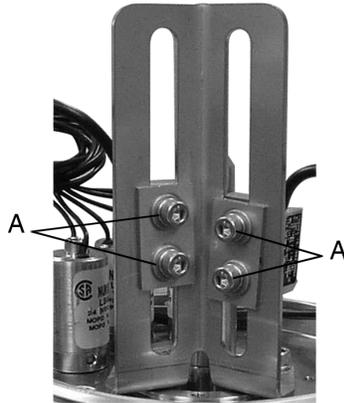
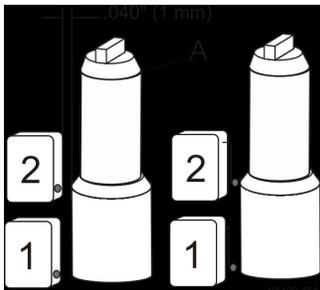

Figure 62 - Switch Adjustment
Figure 63 - Valve Open Adjustment
1. Raise the stem to open, loosen the cap screws holding the switch blocks (Figure 62, item A) with a 9/64" allen wrench and slide the switches to set the distance between the switches and the stem shaft at .040" (1 mm) (Figure 63). If using a micro switch, place a .020" feeler gauge between the roller and the small diameter of the stem. Adjust the switch toward the stem until a “click” is heard.
2. Hand-tighten the cap screws (Figure 62, item A) to hold the switch position.
3. With the stem raised, adjust the vertical height of the upper switch target to slightly below the stem shoulder (Figure 63). Tighten the cap screws securely.